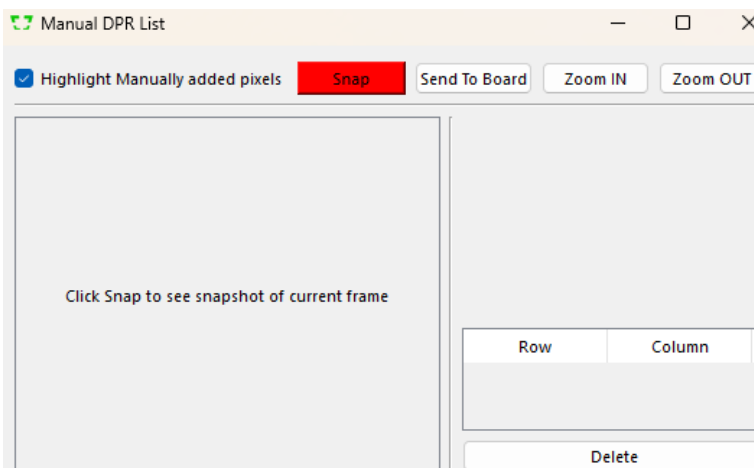

Figure 16: Manual DPR List Dialog Window
3. Locate and click on a dead pixel. Use the *Zoom* and *Pan/Tilt* buttons in the *Video* tab to help click on them. After clicking on a pixel, it will turn to a magenta color and a row will be added to the table to the right showing the *Row* and *Column* of the pixel shown in **Figure 16**.